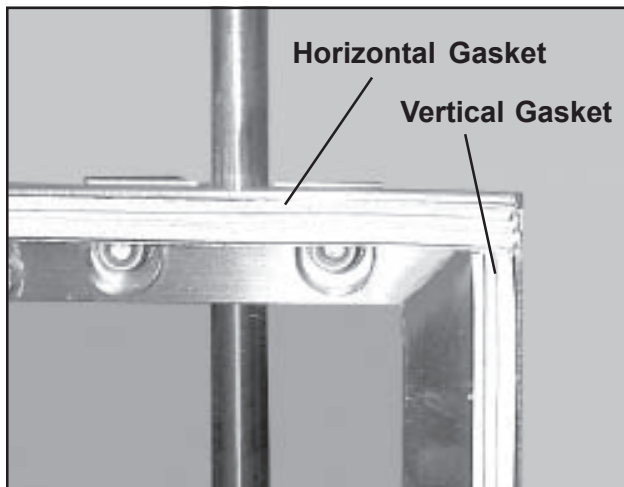

Figure 84. Animal Compartment Door Gasket
4. With a utility knife, peel the old gasket off the door (Figure 84).